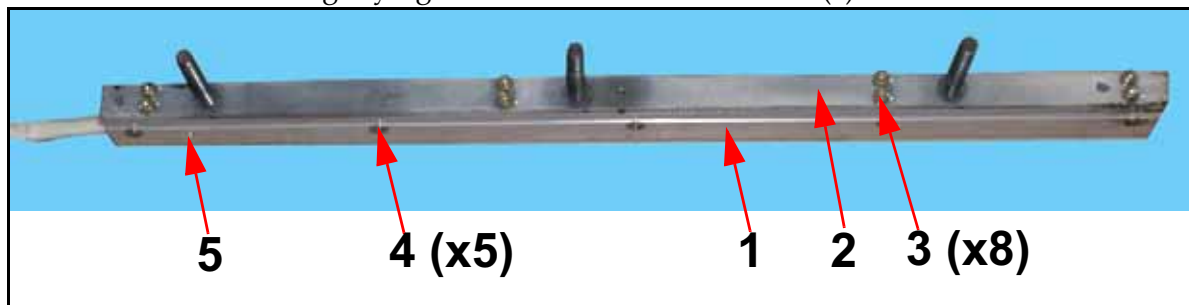

Figure 7-40. Tightening Seal Bar Screws.
- 15 Insert thermocouple into thermocouple hole (1 in Figure 7-40). Jiggle upper bar (2) until thermocouple is fully seated against heater element.
- 16 Tighten eight top screws (3) and five side screws (4).